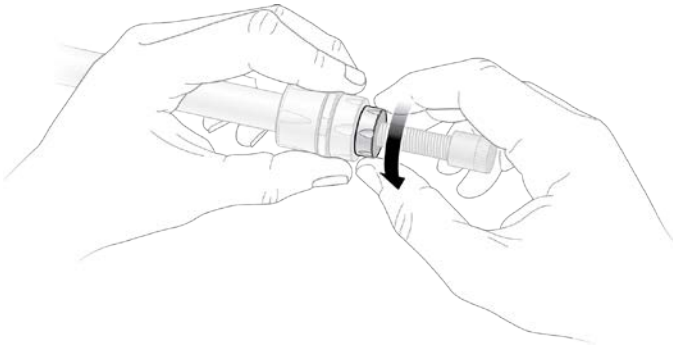

Fig. 9. Hand-tighten the lock nut by turning it counterclockwise.
14. Tighten the lock nut by turning it counterclockwise (Figure 9).